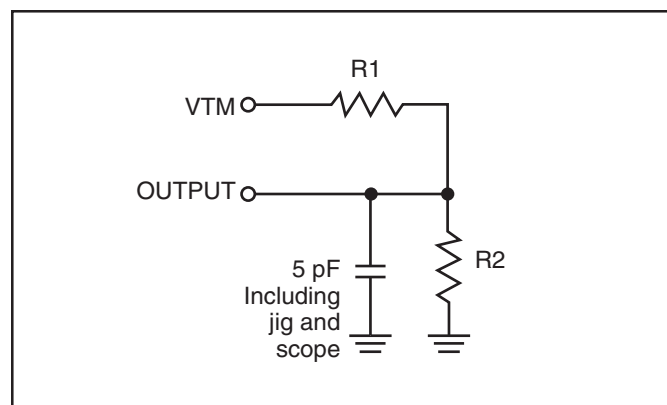

Figure 2
2. Tested with the load in Figure 2. Transition is measured ± 500 mV from steady-state voltage. Not 100% tested.
3. Tested with the load in Figure 2. Transition is measured ± 500 mV from steady-state voltage. Not 100% tested.